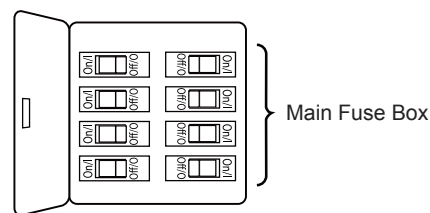
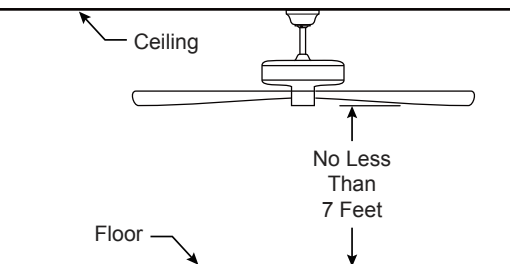
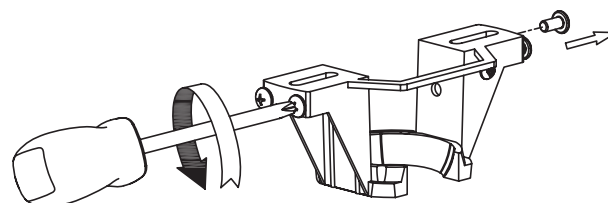

Figure 1
Figure 2
Figure 3
Your new ceiling fan will require a grounded electrical supply line of 120 volts AC, 60 HZ, 15 Amp Circuit. Electrical code requires use of a fan-rated outlet box to support the extra weight and motion associated with a ceiling fan. A fan-rated box will be labeled as such and typically supports up to a 70lb ceiling fan. Fan-Rated Outlet Boxes vary in ratings and design. Ensure the ratings of your ceiling fan outlet box meet the requirements for the ceiling fan being installed. Figure 1, Figure 2 and Figure 3 depicts different structural configurations that may be used for mounting the outlet box.
### Low profile box (Figure 1)
### Deep box (Figure 2)
### Deep box with brace (Figure 3)
- ☐ 1. Remove and discard the five rubber motor stops from the motor assembly by removing the screws. (Figure 1)
- ☐ 2. Remove the hanger ball portion from the downrod/hanger ball assembly by loosening the set screw in the hanger ball until the ball falls freely down the downrod. Remove the pin from the downrod, then remove the hanger ball. Retain the pin and hanger ball for reinstallation in Step 7. (Figure 2)
- ☐ 3. Remove the hairpin clip and clevis pin from the bottom of the downrod. Retain the pin and clip for reinstallation in step 5. (Figure 3)
- ☐ 2. Alternating positions, remove three motor coupling screws from the motor assembly and retain the screws for Step 4. (Figure 2)
- ☐ 3. Route your fan wires through the canopy trim ring and ceiling canopy. (Figure 3)
To avoid possible fire or shock, be sure electricity is turned off at the main fuse box before hanging. (Figure 1)
The fan must be hung with at least 7' of clearance from floor to blades. (Figure 2)
- ☐ 1. Completely remove one screw from either side of the hanger bracket -- be sure it is the screw to your right when facing it -- and keep for reinstallation on page 14 or 15 (**How to Install Your Canopy Housing**). Loosen the other two screws that were not removed. (Figure 3)
To avoid possible electrical shock, be sure electricity is turned off at the main fuse box before wiring. (Figure 1)
- ☐ **1.** Slide the ceiling canopy over the mounting bracket with the two loosened screws going into the “L” slots in the canopy. Be sure all wiring is tucked into the ceiling canopy and is not pinched. Once the canopy is flush with your ceiling, turn clockwise to seat the screws into the keyed portion of the slot. Tighten the screws and install the remaining two screws removed in step 1 of page 10 (**How to Hang Your Ceiling Fan**) to secure the ceiling canopy to the hanger bracket. (Figure 1)
- ☐ **2.** Assemble the canopy screw cover, by twisting in a clockwise direction and up to the ceiling canopy. (Figure 2)
- ☐ **3.** Push the canopy trim ring up to conceal the screws, such that the mounting tabs seat into the dimpled grooves in the ceiling canopy midway between the screws. (Figure 3)
- ☐ 1. Lift the fan off the hanger bracket hook and mount your fan by sliding the ceiling canopy over the mounting bracket with the two loosened screws going into the “L” slots in the canopy. Be sure all wiring is tucked into the ceiling canopy and is not pinched. Once the canopy is flush with your ceiling, turn clockwise to seat the screws into the keyed portion of the slot. Tighten the screws. (Figure 1)
- ☐ 2. Install the remaining two screws removed in step 1 of page 10 (**How to Hang Your Ceiling Fan**) to secure the ceiling canopy to the hanger bracket. (Figure 2)
- ☐ 3. Push the canopy trim ring up to conceal the screws, such that the mounting tabs seat into the dimpled grooves in the ceiling canopy midway between the screws. (Figure 3)
1. Position the blade over the blade holder with threaded posts showing. Make sure the bottom edge of the blade is fully seated against the blade holder. With a phillips screwdriver, tighten 3/16"-24 serrated head screws with flat washers to secure the blade to the blade holder. (Figure 1)
2. Attach assembled blade holders to the motor hub using the provided screws with lock washers in the hardware bag. Make sure the screws securing the blade holders to the motor hub are tight and that the blade holders are properly seated. (Figure 2)
1. Remove the three screws from the switch cup assembly and retain screws for later. (Figure 1)
2. Securely attach the 9-pin switch cup connector to the wiring harness socket within the adapter assembly. (Figure 2)
3. Assemble the switch cup assembly onto the housing adapter with previously removed screws. (Figure 3)